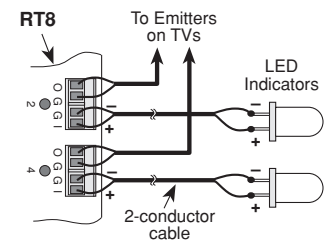

Fig. 5 Connecting LED Indicators to the "I" and "G" Terminals
- The "I" and "G" terminals on each of the output terminal jacks are provided so that LED indicators, placed near each TV Monitor (if desired) will give a visual indication of the currently controlled Monitor. Refer to Fig. 5. Use LED's with an operating current rating of 10 to 20 mA.